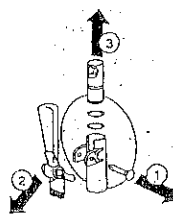
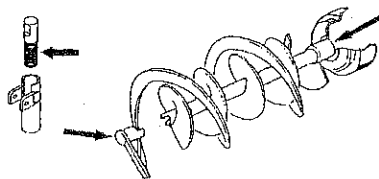

Fig. 12
Fig. 14
6. Dismantle the faucet assembly (Fig. 12)
2. Reassemble the faucet by reversing the steps of Fig. 12. Lubricate (using only food approved lubricants) the shaded area of the faucet, rear and outer spiral assemblies with a liberal coating of lubricant as shown (Fig. 14) Attach to the bowl.